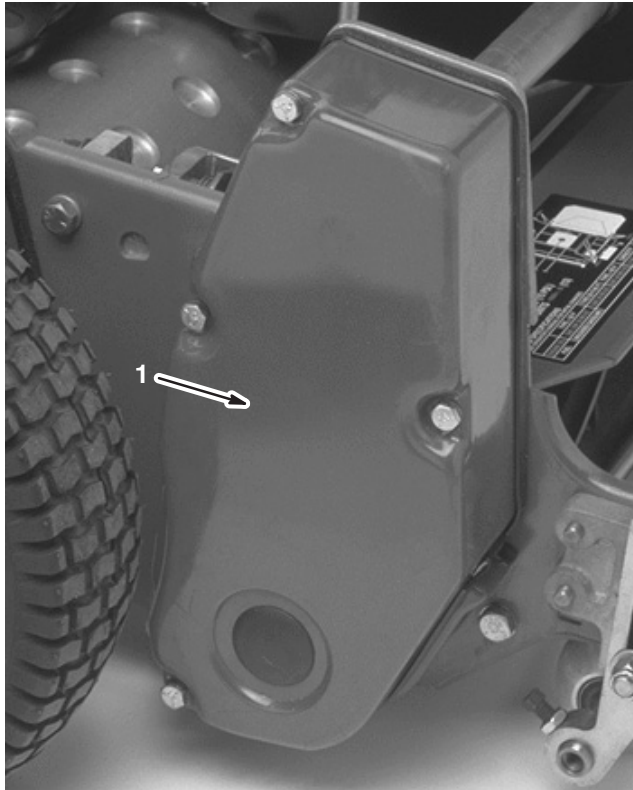

Figure 34
1. Remove the belt cover mounting screws and the belt cover (Fig. 34).